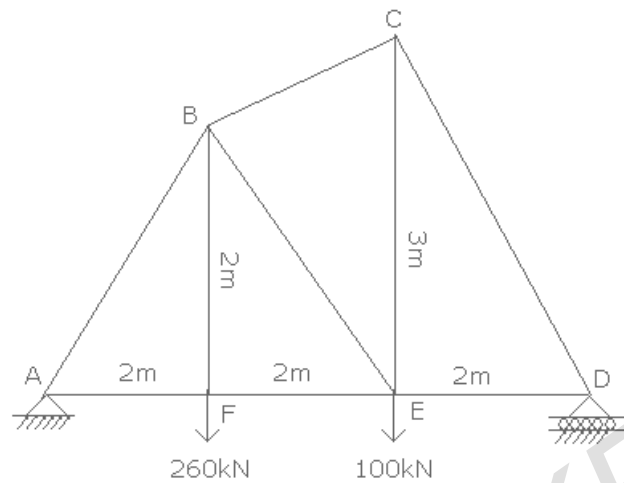

Figure 7
6. Analyse the frame shown in Figure 7.